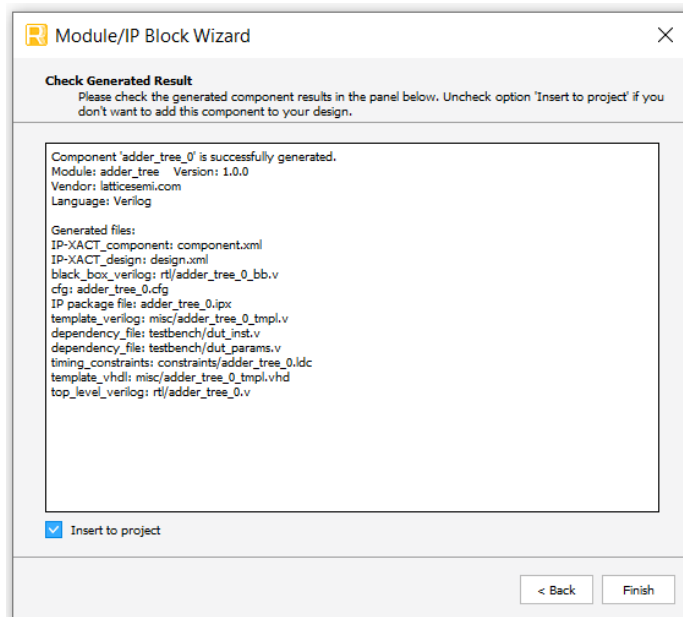

Figure 3.3. Check Generating Result
5. Click **Generate**. The **Check Generating Result** dialog box opens. Design block messages and results are shown in Figure 3.3.